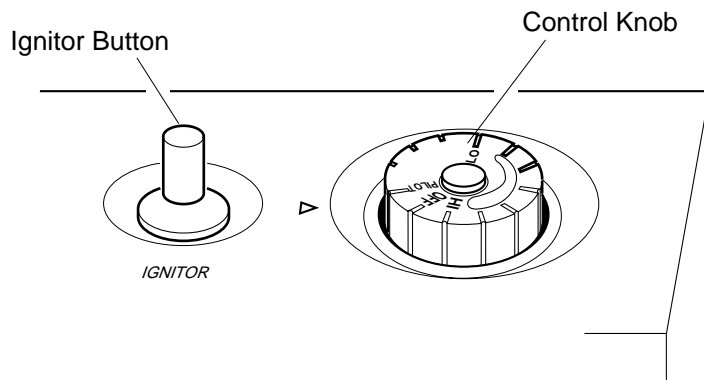

Figure 27 - Control Knob In The OFF Position
4. Wait five (5) minutes to clear out any gas. Then smell for gas, including near the floor. If you smell gas, **STOP!** Follow “B” in the safety information at the top of page 23. If you don’t smell gas, go to the next step.
5. Turn control knob counterclockwise  to the PILOT position. Press in control knob for five (5) seconds (see Figure 27, page 23).